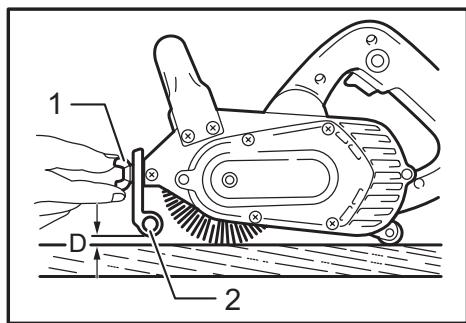

Fig.1
► Fig.1: 1. Wing nut 2. Front roller